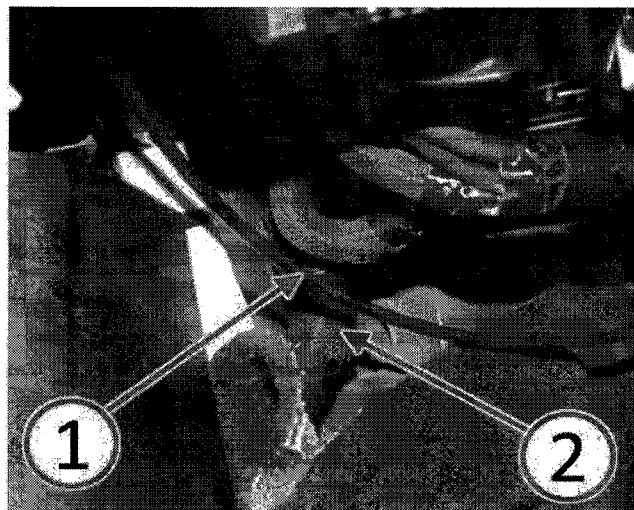

Fig. 2 Hood Release Cable In Front Of Harness
2. Is the hood latch release cable (1) routed in front of the wire harness (2) as shown in (Fig. 2)?